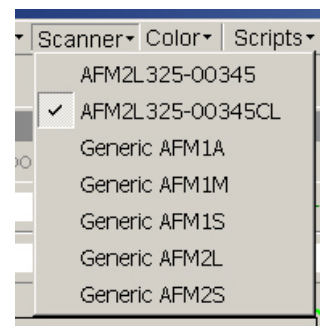

Figure 2
Prior to imaging, please select the desired calibration file in the scanner menu (figure 2). Choose closed loop calibration for XY closed loop imaging, and open loop calibration for open loop imaging. Since Z closed loop is independent of XY closed loop, user can also do XY closed loop with open loop Z scan.
1. Make sure the correct scanner calibration file is used (shown in figure 2). Typically, the closed loop file names contain the letters "CL XYZ" for easy identification.